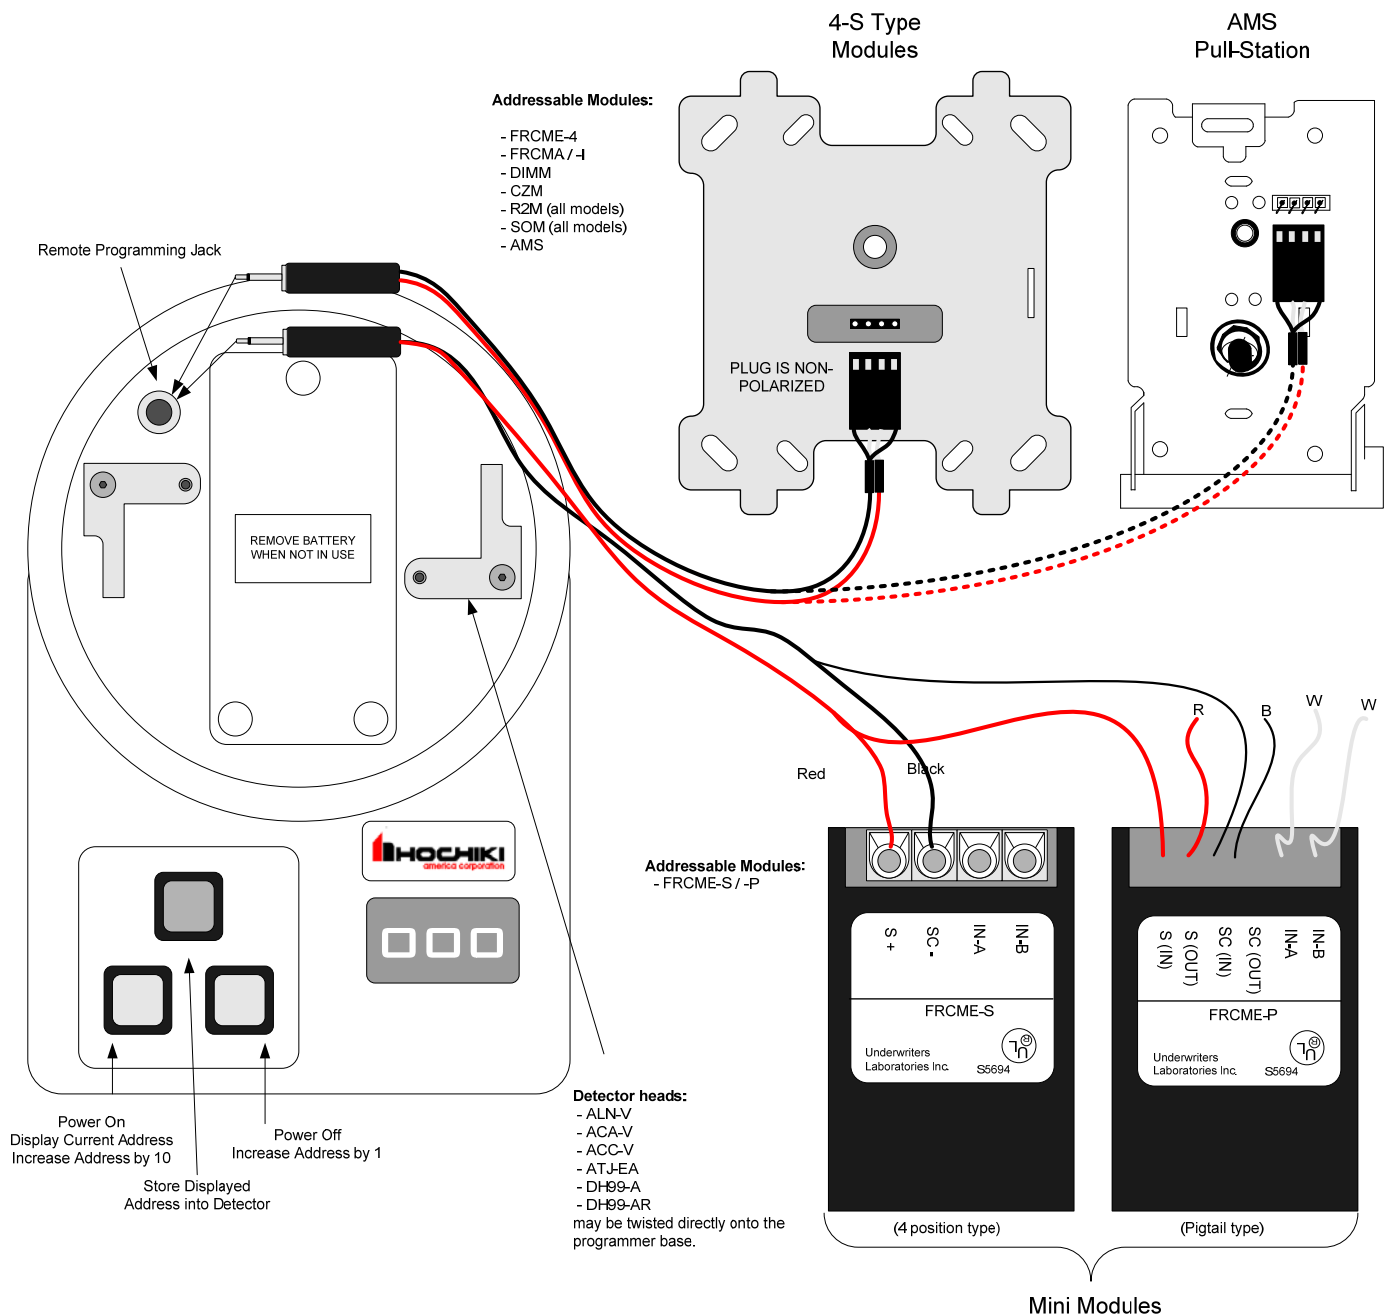

Figure 5.4 Hochiki TCH-B100-NS Programmer Connections
2. Using the Hochiki TCH-B100-NS programmer as shown in Figure 5.4, program the appropriate address into each analog addressable device.
This section applies to the following Hochiki analog detectors – ALN-V, ACC-V, ATJ-EA, DH-99-A, DH-99-AR,. Follow these steps to program a new address into any one of these analog detectors. (Refer to Figure 5-4)
This section applies to the following Hochiki addressable modules - FRCME-4, FRCMA, FRCMA-I, R2M (all models), DIMM, CZM, SOM (all models), and AMS. Follow these steps to program a new address into any of these addressable modules. (Refer to Figure 5-4)
This section applies to the Hochiki FRCME-S, FRCME-P and FRCME-M addressable mini-module. Follow these steps to program a new address into any of these addressable modules. (Refer to Figure 5-4)